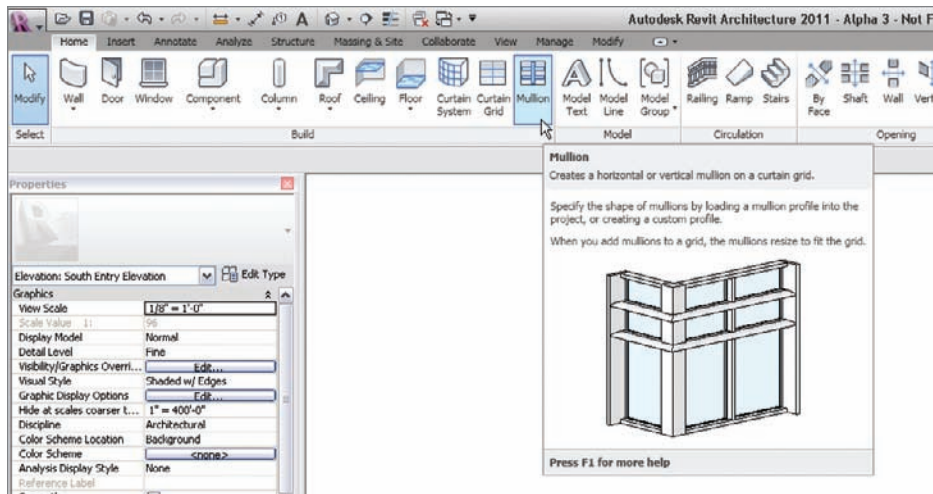

FIGURE 16.35 Click the Mullion button on the Home tab.
1. On the Build panel of the Home tab, click the Mullion button, as shown in Figure 16.35.